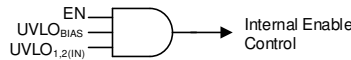

Figure 7-5. Simplified Turnon Control
Controlling when a single power supply turns on can be difficult in a power distribution network (PDN) because of the high power levels inherent in a PDN, and the variations between all of the supplies. The LDO turnon and turnoff time is set by the enable circuit (EN) and undervoltage lockout circuits (UVLO_{1,2(IN)} and UVLO_{BIAS}), as shown in Figure 7-5 and Table 7-2.